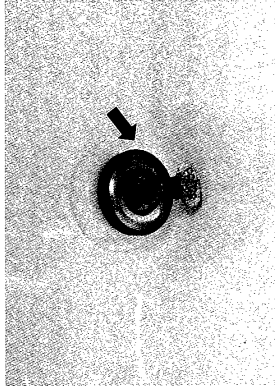

Figure 15
2. While the boat is running, remove the plug from the bottom of the baitwell. See figure 15.